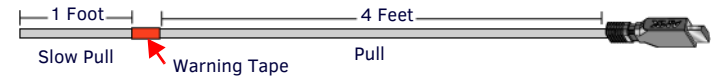

FIG. 3 EXTRACTING CABLE - WARNING BAND
5. Watch for red tape on the cable when extracting. It is a warning to slow pull for the final 1 foot to avoid damage to the RCM (FIG. 3).